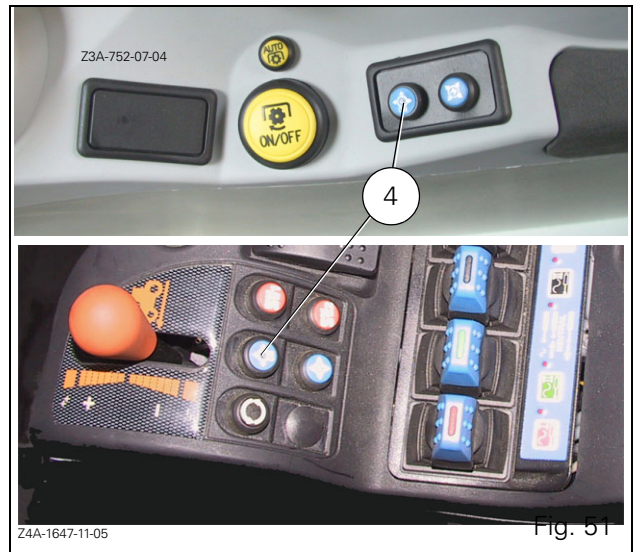

Fig. 51
1. Locking the hydraulic spool valve controls To unlock, press the button (4 Fig. 51) (the padlock disappears and the button indicator light goes out).